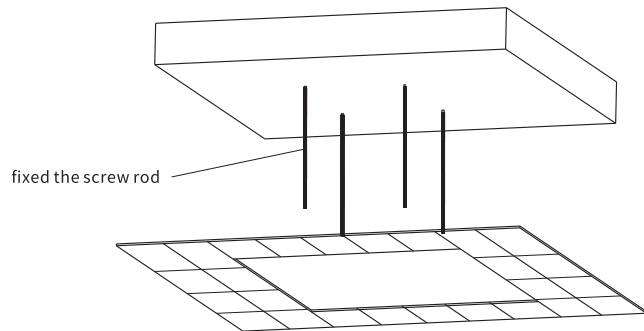

figure 4
2. Ensure the security distance M、N according to the figure 3 and the model of table. Install the brackets to the roof via the screws, figure 4.